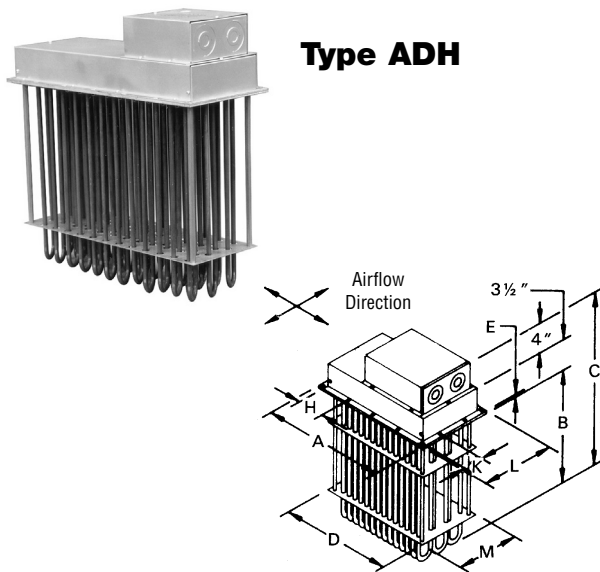

Figure 1 — Dimensions
- Refer to Figures 1 and 2, layout "D" and "M" dimensions on duct mounting face established in step 1.